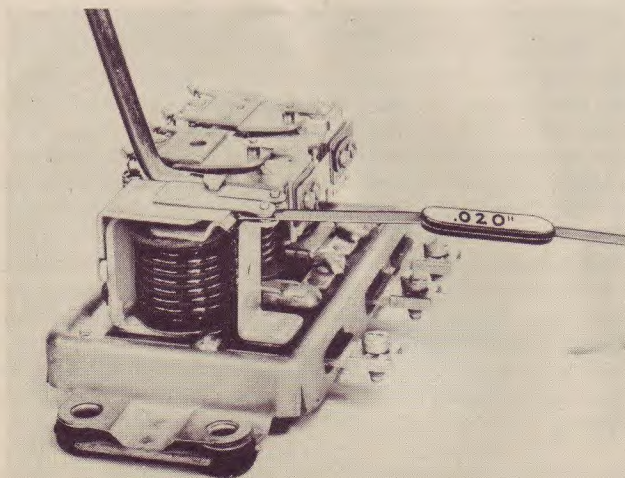

FIGURE 2-20
**Point Opening** is adjusted by bending the upper armature stop. (Figure 2-20).